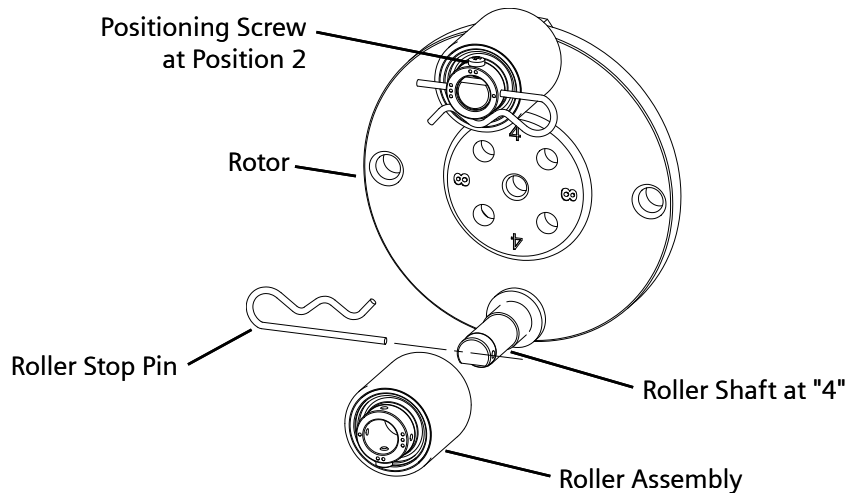

Figure 4.4 - Roller Assembly, Roller Shaft and Rotor
4.3.1 Roller Assembly Removal - Models S5, S10, and S16 (See Figure 4.4)